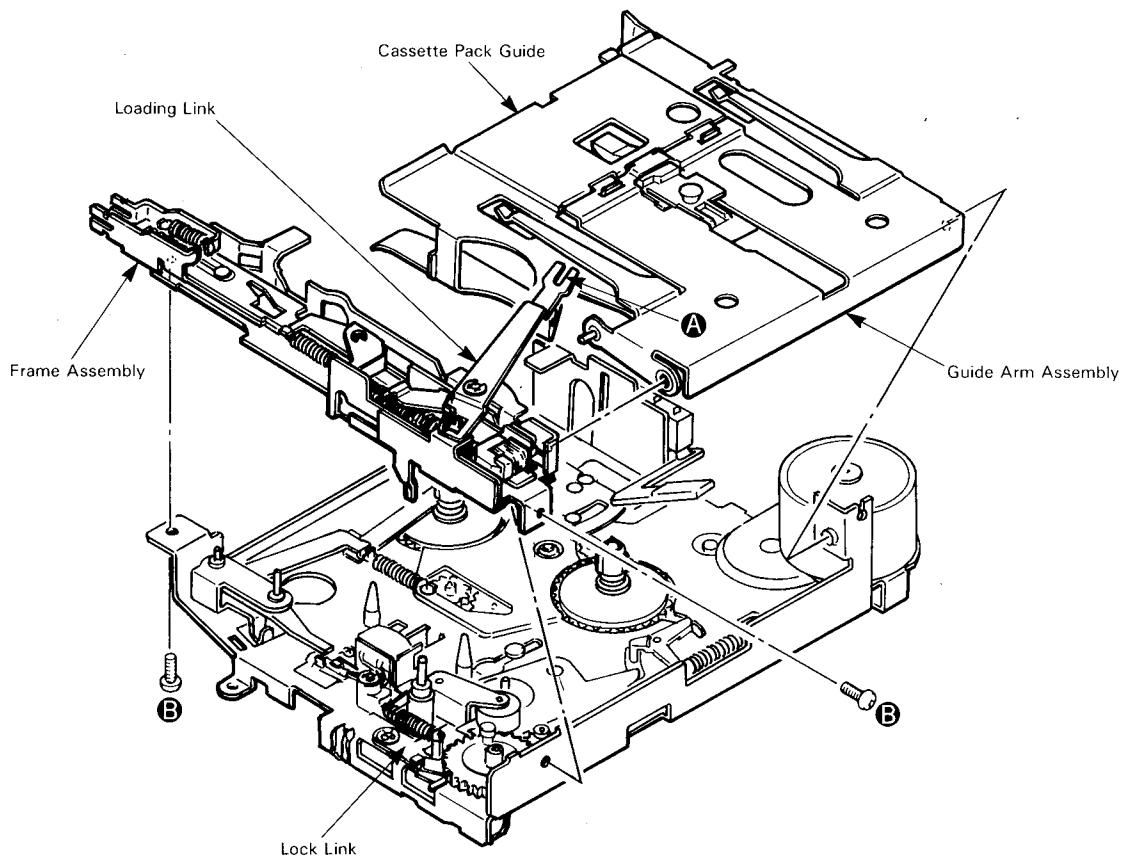
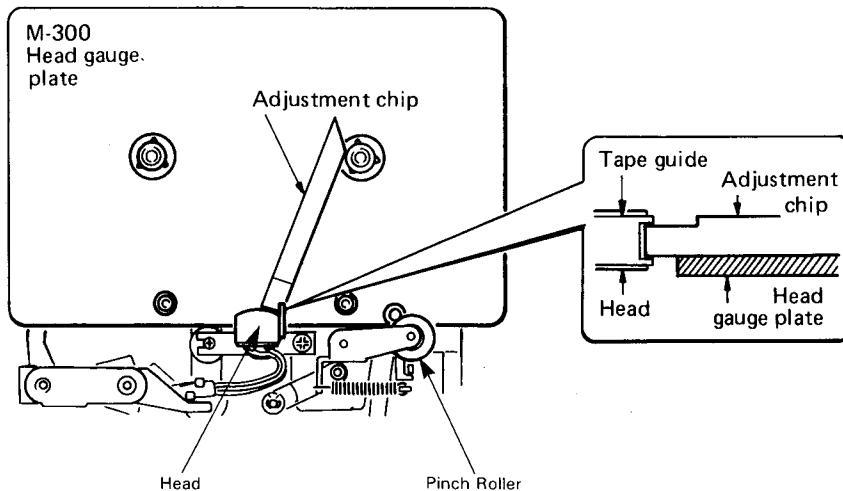

Fig. 1
Fig. 2
① Head replacement
2. Remove the A portion of the Loading Link. (See Fig.1)
3. Remove the 2 screws B in Fig.1 and remove the Frame Assembly, Cassette Pack Guide and Guide Arm Assembly, and then replace the head.
② Head height confirmation
3. Check to make sure that the adjustment chip does not contact the tape guide of the head. (See Fig.2)